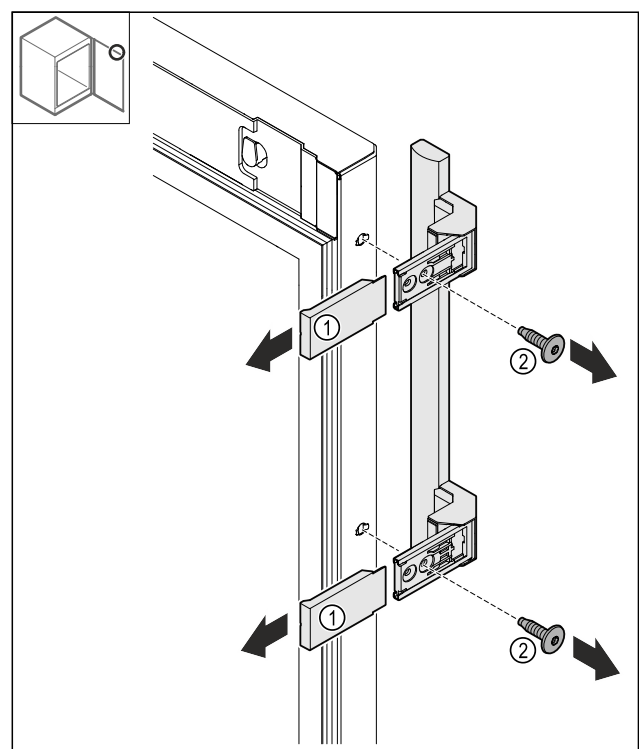

Fig. 16
- ▶ Remove the covers Fig. 16 (1).
- ▶ Loosen the screws Fig. 16 (2).